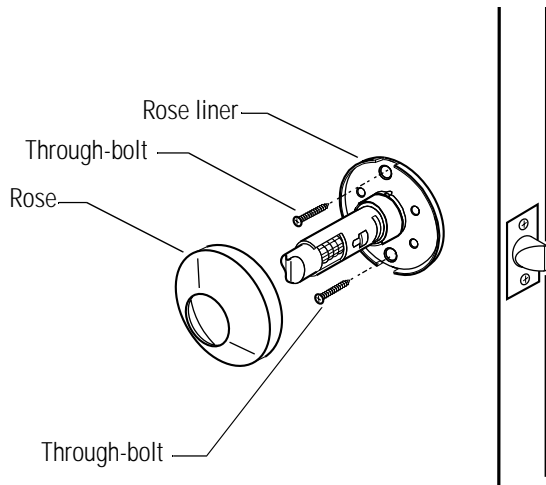

**Figure 3.6** Removing the two through-bolts
3. Unscrew the two through-bolts, as shown in Figure 3.6. Save the through-bolts.